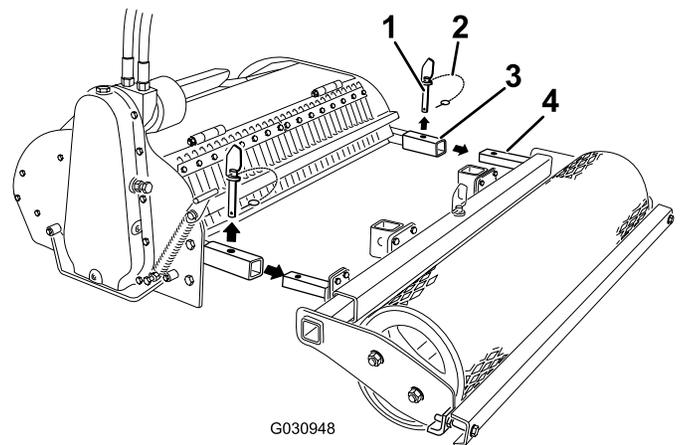

Figure 5
2. Remove the drift pins from the arms of the cultivator (Figure 5).
3. Pull the roller off the cultivator (Figure 5).